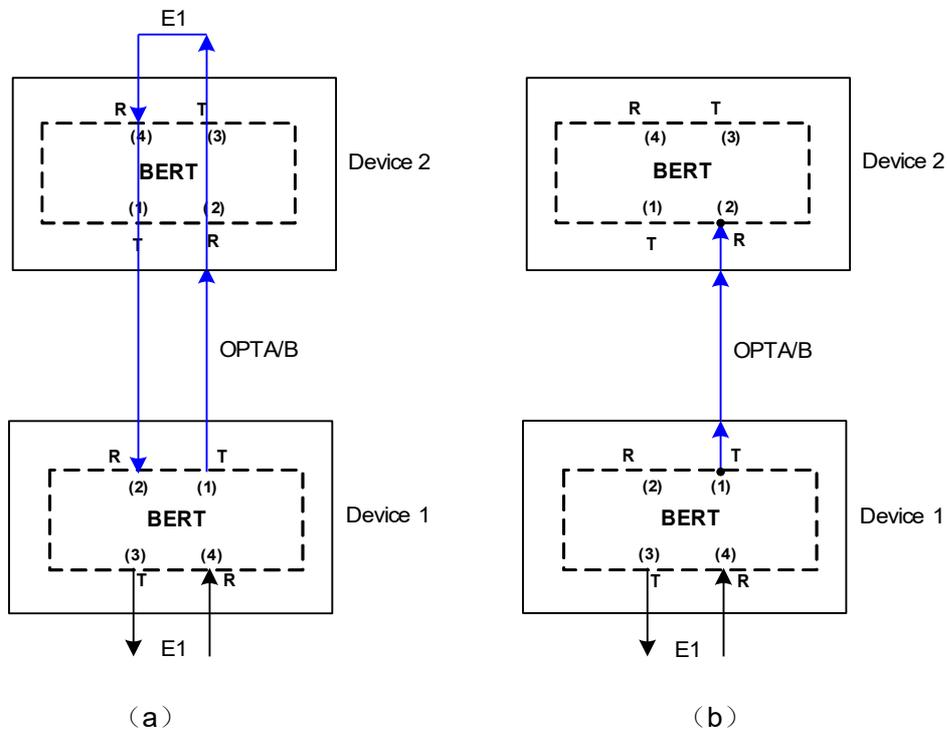

Fig.4-6-2-1 Application1
Choose any VC12 from E1_1 to E1_16 as the tested channel, Open to transmit at position (1) of device 1, the BERT start to insert $2^{15} - 1$ pseudo random sequence into the transmitting VC12 channel, configure E1 port inner_loopback of device2 and open to receive at position(2) of device 1, check for bit error static by BERT, as Fig.4-6-2-1 (a) shows; while open to receive at position (2) of device 2 can tests a signal direction line as Fig.4-6-2-1(b) shows.